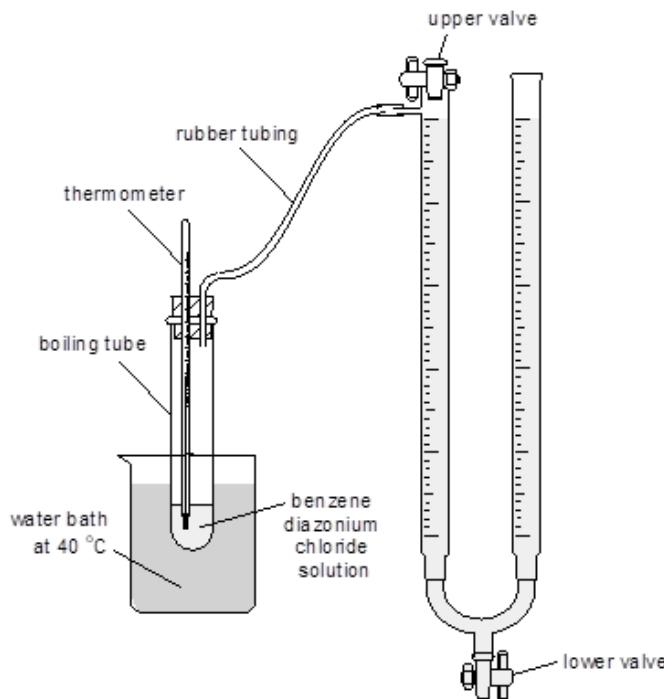

Fig. 4.2
- (iv) Complete the diagram on Fig 4.2 to show the experimental set-up the student could have used to carry out experiment in (b) to measure the volume of nitrogen evolved at $40\text{ }^\circ\text{C}$.